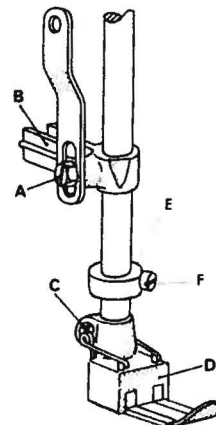

fig. 9
**7. Mounting and positioning the presserfoot (fig. 9):**